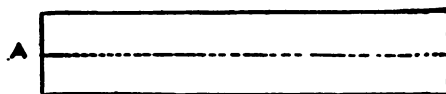
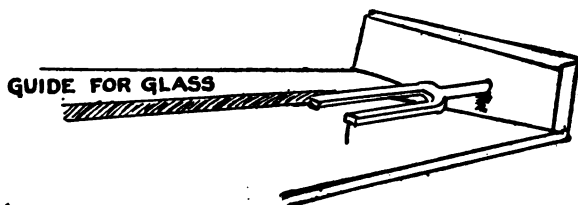

Fig. 3
Fig. 2
If the fork is fastened horizontally and a guide placed below it, as shown in Fig. 2, a piece of smoked glass may be drawn evenly along beneath the fork, and the fine wire (A) will leave a smooth, clear scratch upon the smoked surface (Fig. 3).